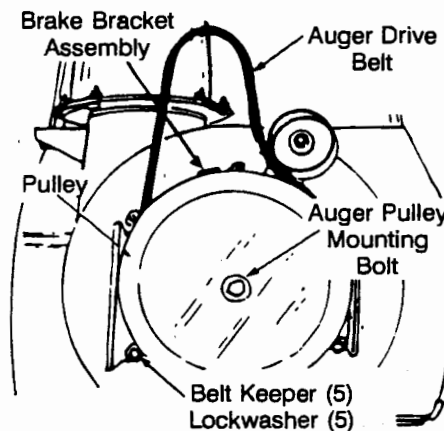

FIGURE 18
- Slip the auger drive belt (the front belt) off the engine pulley. See Figure 18.
- Using a 9/16" wrench remove the five belt keepers and lockwashers from around the auger pulley. See Figure 18.